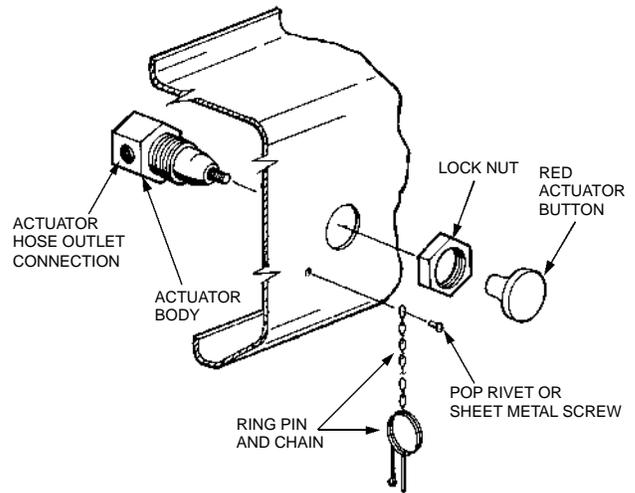

FIGURE 11
2. Unscrew RED actuator button from actuator stem, remove locknut, and slide actuator body through mounting hole. See Figure 11.
3. Rotate actuator body for desired location of actuation hose outlet connection. Screw locknut firmly onto actuator body and insert ring pin. Apply a non-permanent thread adhesive, such as Locktite 242 or equal, to the RED actuator button threads and then screw the button onto the stem. See Figure 11.
The ring pin chain may not be long enough in certain dashboard mounted locations. When this occurs, remove the chain from the drive pin in actuator body and attach it to an appropriate location using either a pop rivet or a sheet metal screw. See Figure 11.